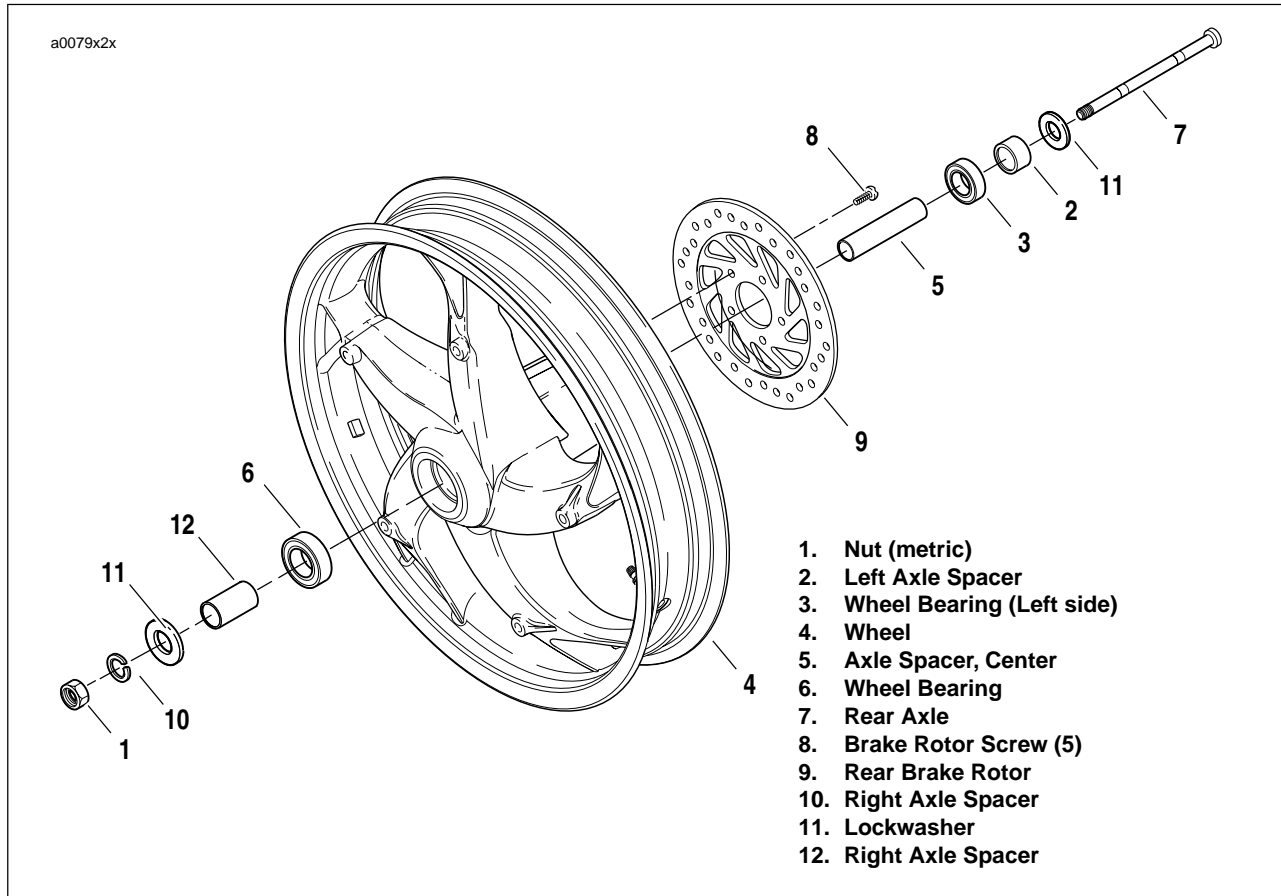

Figure 2-9. Rear Wheel Assembly
5. See Figure 2-9. Install brake rotor (9) to wheel.
- b. Apply LOCTITE THREADLOCKER 272 (red) to threads of each of the five T40 TORX screws (8).
- c. Install rotor (9) on wheel hub. Tighten TORX screws in criss-cross pattern to 24-27 ft-lbs (33-37 Nm).